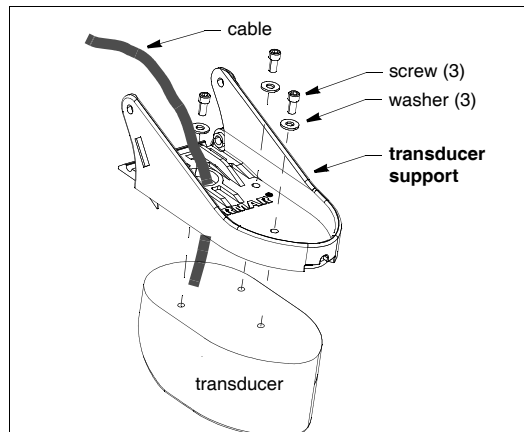

Figure 2. Detaching transducer support from transducer
2. Remove the transducer support from the transducer using the Allen wrench supplied (see Figure 2). Set the three socket-head-cap screws and washers aside to reuse. **Be sure to temporarily support the weight of the transducer, so it does not sever the internal connections to the cable.**
- The replacement transducer support has a slot that allows it to slide onto the transducer cable (see Figure 6). Slide the support into place and align the screw holes with the transducer (see Figure 2). Fasten the transducer support to the transducer using the three socket-head-cap screws and washers. Tighten the screws with the 3/16" Allen wrench supplied.